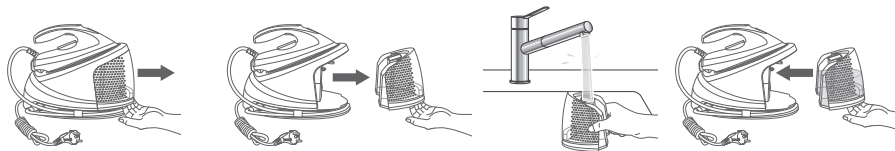

Fig.2
2. Hold the handle (7) underneath the water tank (4) and pull it straight out to remove the water tank from the steam station base (5) (Fig. 2).
3. Fill the water tank with tap water through the filling opening (3). Do not exceed the "MAX" (1.2 L) level mark.